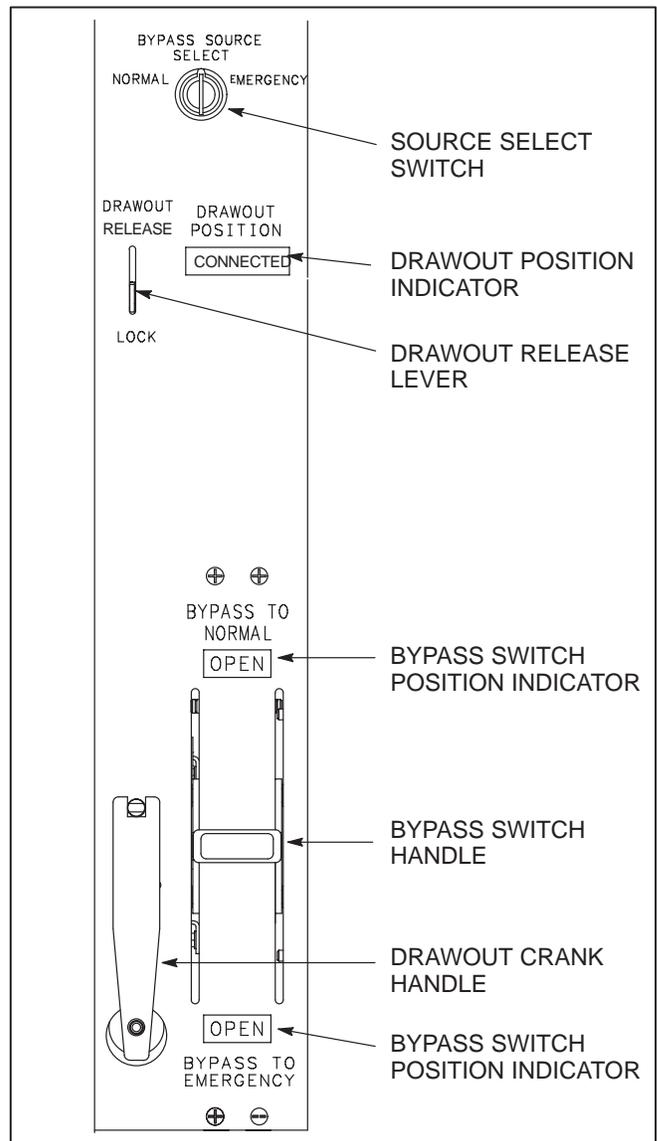

FIGURE 3-2. 150–1000 AMP BYPASS PANEL
- **Drawout Position Indicator:** On Bypass switch panel in AUTOMATIC position (Figure 3-2).
- **Bypass Switch Handle:** Center position. Both bypass switch position indicators should read OPEN (Figure 3-2).
- **Source Selector Switch:** NORMAL for Source 1 power, EMERGENCY for Source 2 power (Figure 3-2).
1. Turn and hold the Bypass Source Select switch in the Normal position (Figure 3-2).
2. Extend the drawout cranking handle from the storage position (Figure 3-2).